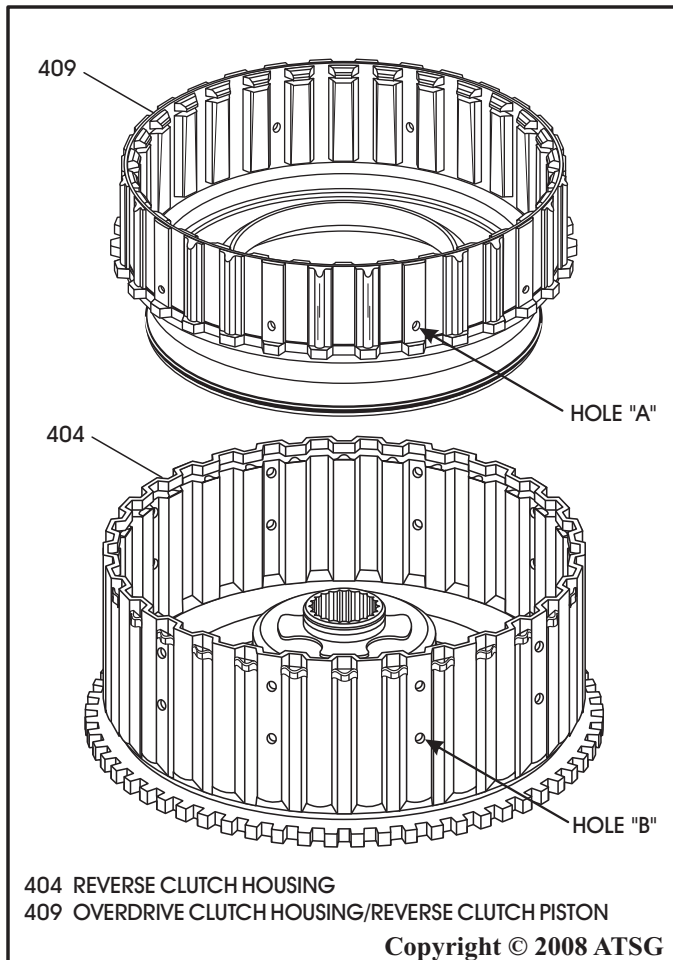

Figure 90
9. Install overdrive housing/reverse clutch piston into the reverse clutch housing, as shown in Figure 90.
- Note: As you install, ensure the lube holes in the two pieces are aligned, as it is shown in Figure 90.*